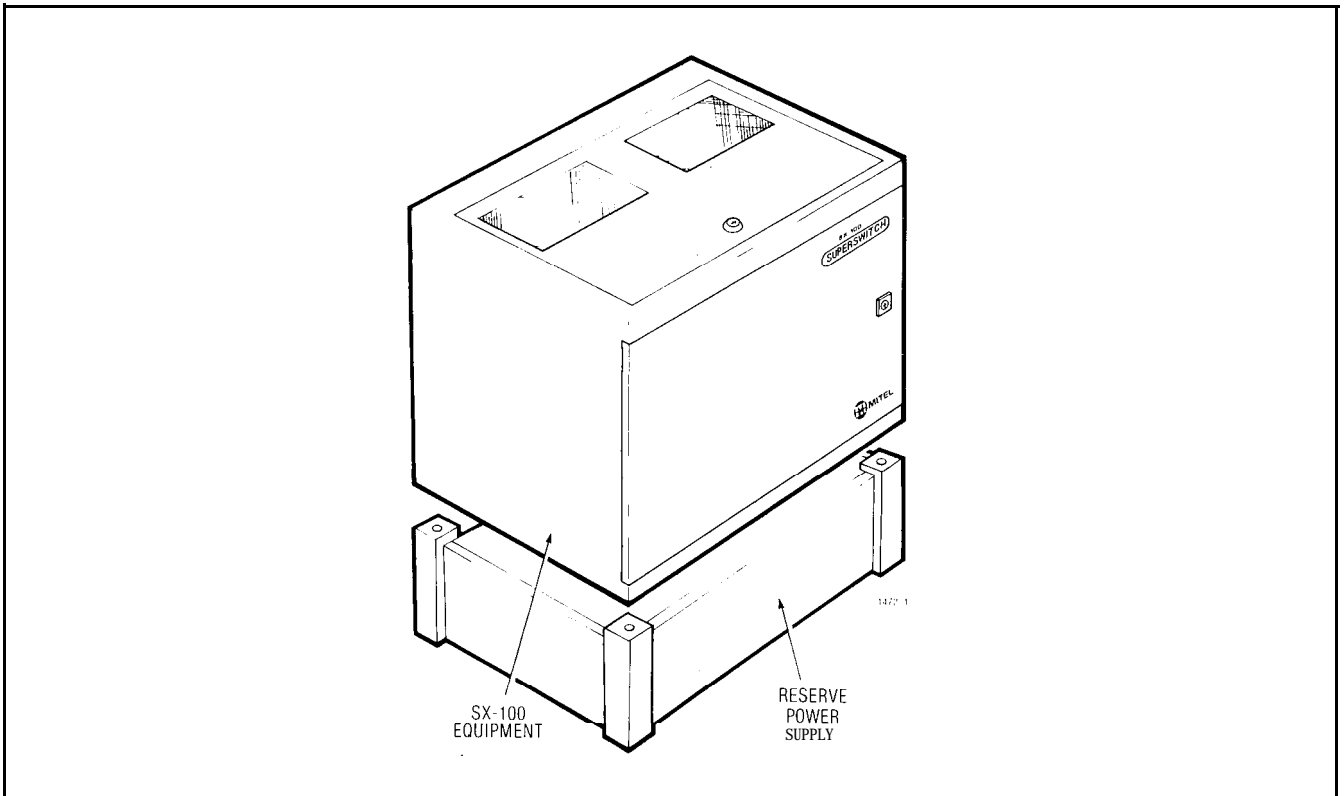

Fig. 3-3 SX-100 and Reserve Power Supply
3.11 The reserve power supply is designed to maintain complete system operation for a minimum of two hours in the event of a primary power failure. The reserve power supply is housed in a completely enclosed unit and forms a base unit on which the standard SX-100 cabinet can be mounted (Fig. 3-3). A cable harness is supplied to interconnect the two units. In the case of the wall mounted version of the SX-100 the reserve power supply may be installed adjacent to the SX-100.